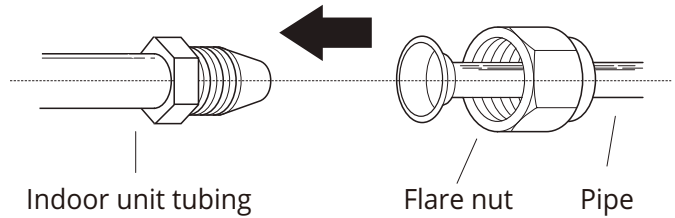

Fig 6.7
- Align the center of the two pipes that you will connect. See Fig. 6.7.